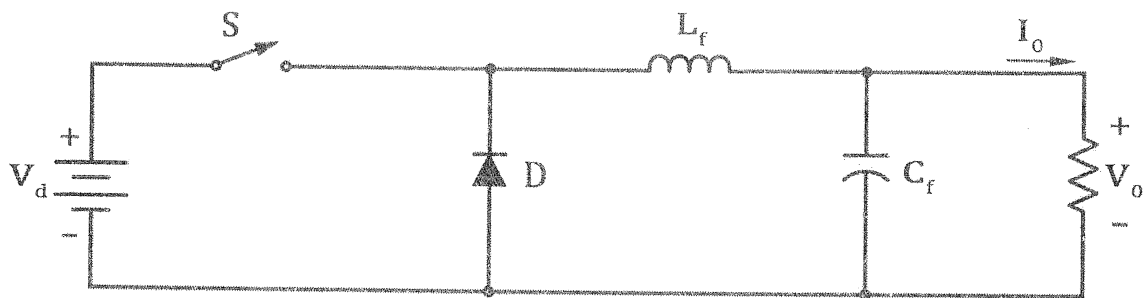

Figure Q2
b) Figure Q2 shows the circuit diagram of a step down DC-DC converter which is fed from a 42 V DC source. The converter is connected to a load which draws 0.5 A current.
- i) Modify the circuit shown in Figure Q2 using simple LC resonant in order to obtain Zero Current Switching (ZCS).